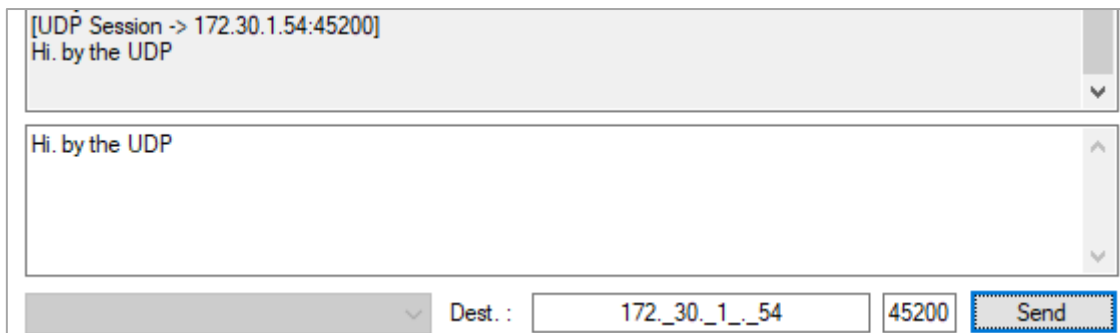

Figure 31: UDP Session Data Transfer
- **UDP Session:** Select the **UDP Session** option > Enter the destination IP and port number > Type a message > Click the **Send** button (see Figure 31)